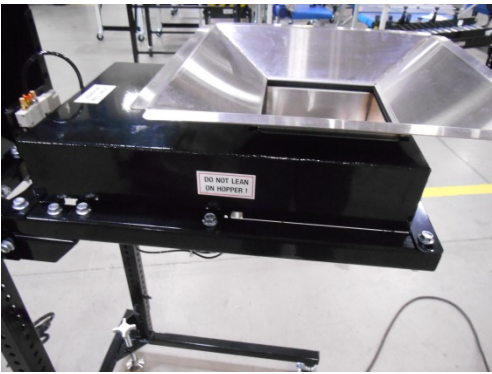

Fig 1
- Remove top cover from frame assembly. (Fig 1)